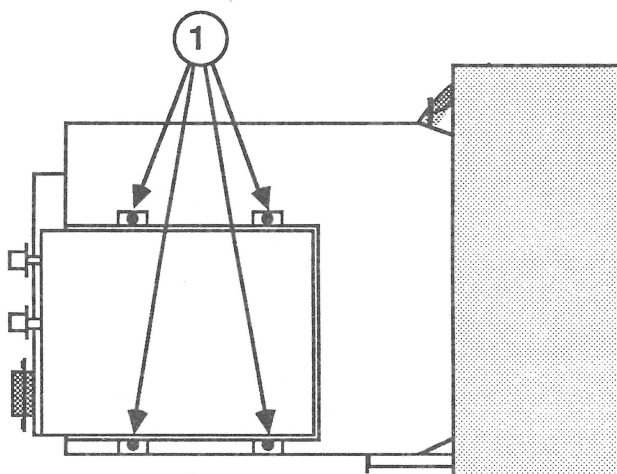

FIGURE 19
5. Remove the four screws that secure the power supply to the chassis frame (Figure 19, #1).
4. Match up the screw holes on the chassis frame with those on the power supply tabs, and replace the four screws (see Figure 19, #1, on the previous page).